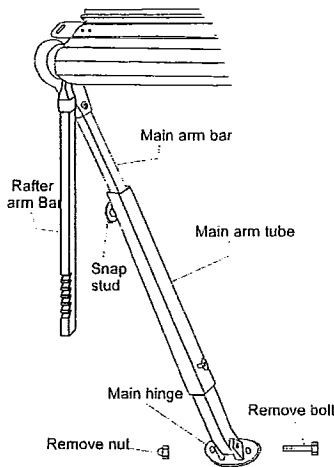
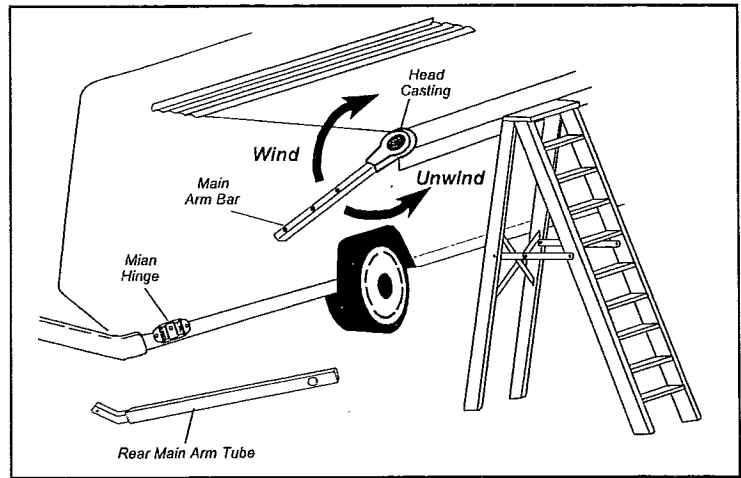

Figure 1a
Figure 1
2. Set the front rafter arm and the front Z- Lock, if any, to lock the awning open. Support the roller tube either as shown or, preferably, by another person. Unbolt rear main arm from the lower main hinge (Fig. 1a) and slide the main arm tube assembly off of the main arm bar. (Fig. 1).
7. Disconnect the rear main arm from the rear hinge casting again and, using the main arm bar, wind the spring in a clockwise direction 7 turns plus one turn for every foot of awning length. (**Fig. 1**) For example, 21' awning equals 31 turns.